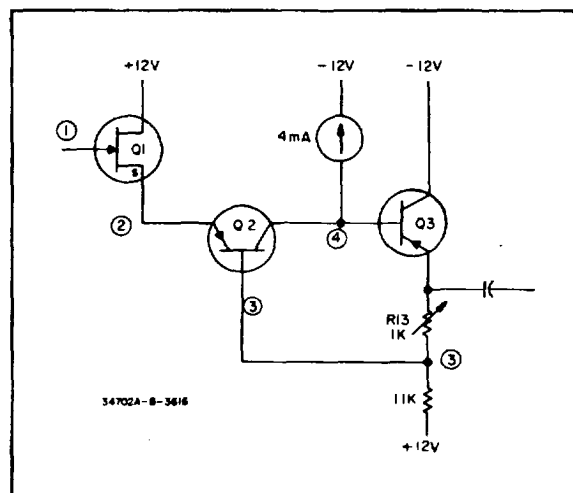

Figure 4-5. Impedance Converter.
**4-21. Impedance Converter.** A simplified diagram of the Impedance Converter is shown in Figure 4-5. The input transistor Q1 is a source follower. Transistors Q2 and Q3 constitute an amplifier that provides bias current to Q1 and a high input resistance (load resistance) for Q1. A positive going voltage at point 1 causes the voltage at point 2 to increase. This increased voltage at point 2 increases the